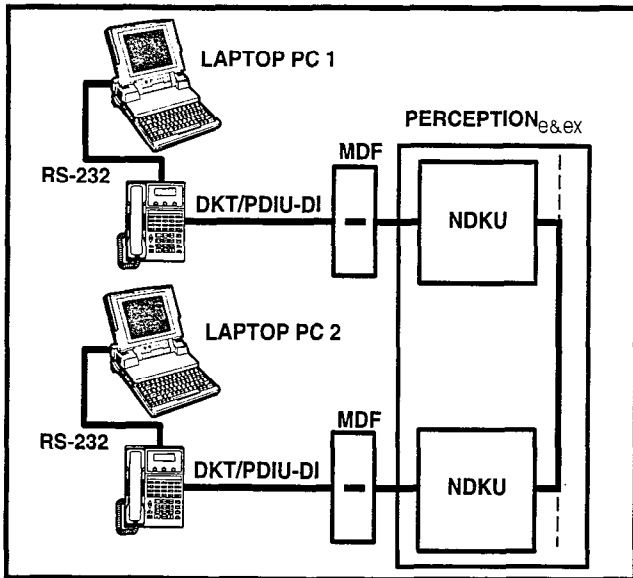

FIGURE 4-62
6.181 Figures 4-62 ~ 4-65 provide tests for four PDIU call applications. The telephone and port numbers used in these figures are provided for explanation purposes only. When actually testing, use port and telephone numbers appropriate for the system. Each of these tests can be conducted with either manual dialing from a telephone dialpad, or AT dialing from a personal computer keyboard; however, only the preferred method of dialing for the application is presented. The *PDIU User Guide* has additional information on the tests, which are listed below:
- Figure 4-62—PC to PC Test Call Using AT Commands